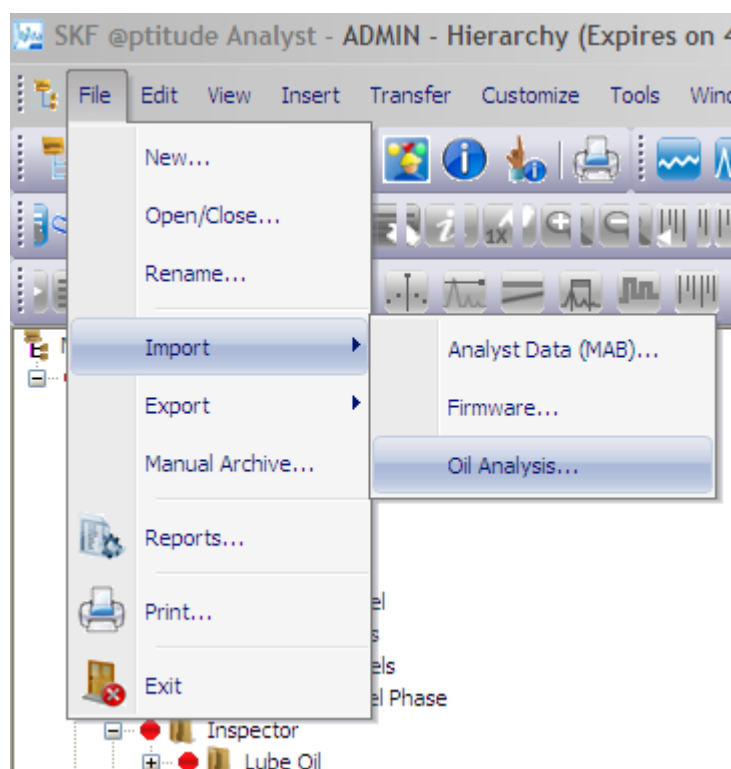

Figure 1. Import option
1. From the main menu, select **File → Import → Oil Analysis...** [Figure 1]